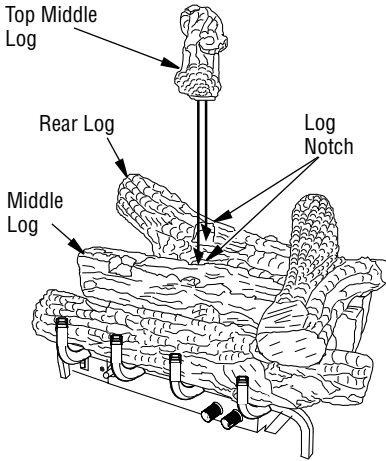

Figure 28 - Installing Middle Log
5. Place the top middle log onto the rear & middle logs as shown in **Figure 28**. Make sure to match up the shape on the bottom of the top middle log with the notches in the rear and middle logs.